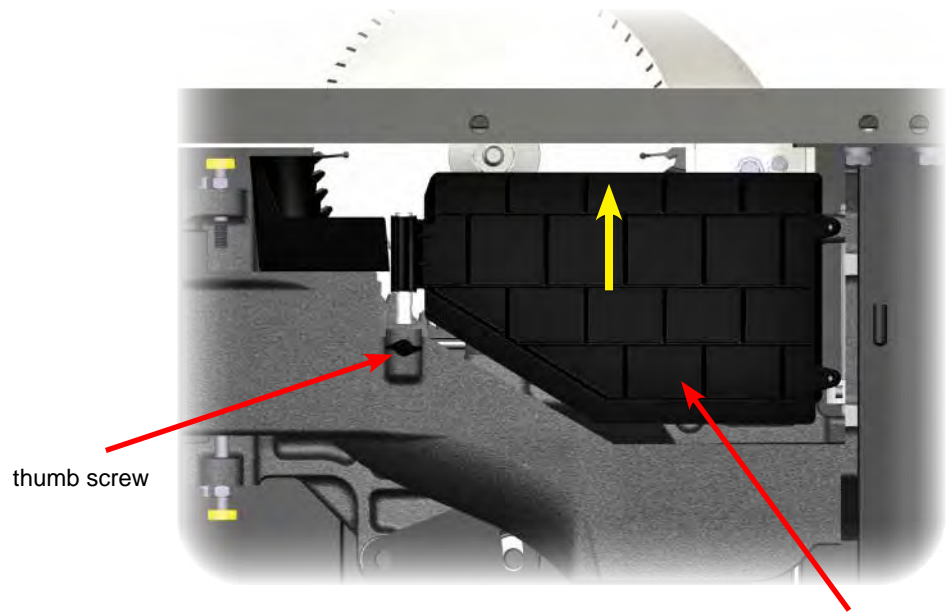

Fig. 11
**Note:** some users may find it easier to adjust the brake position by opening the motor cover and removing the dust shroud door to see the blade and brake cartridge more clearly. To remove the dust shroud door, loosen the thumb screw and lift the door upward until the pivot pin in the door clears the pivot hole in the cast iron trunnion brace (see Fig. 11).